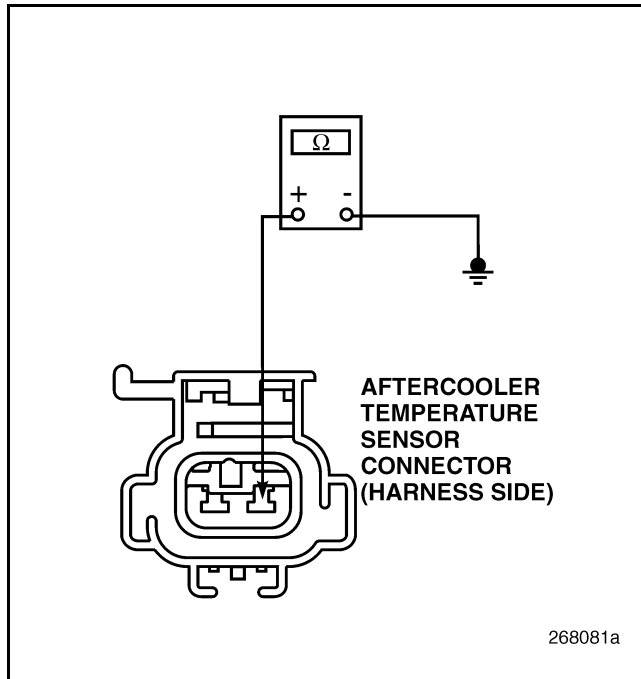

Figure 804
4. Check for continuity between pin 1 of the AOT Sensor harness connector and a good ground (see Figure 804).